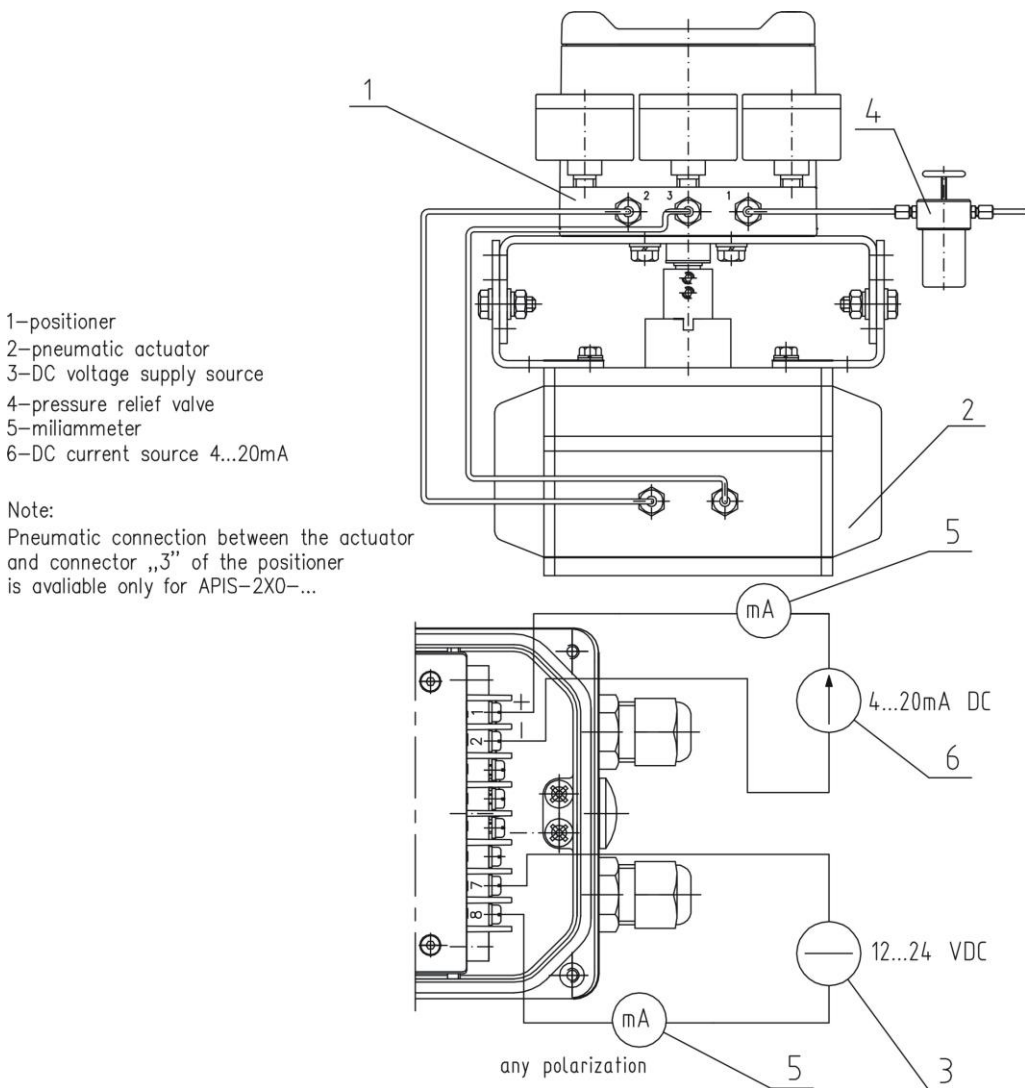

Fig. 17. Diagram of wiring for launching APIS-1X0-... and APIS-2X0-... positioners single/double-acting rotary actuator)
- Positioner APIS-1X0-... and APIS-2X0-... installed on the actuator acc. to sect. 10.5. should be connected acc. to the diagram presented in Fig. 17.